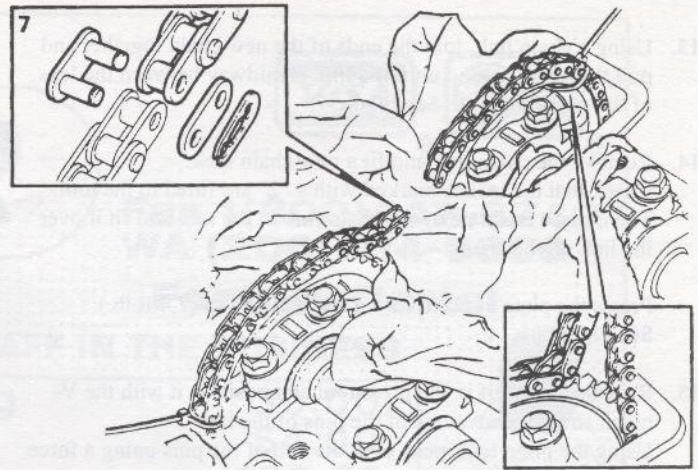

Figure 5: Joining new chain to old.
8. Using chain link 83 94 660, join the new chain to the old. Be careful to prevent the chain from falling down and becoming entangled. See Figure 5.